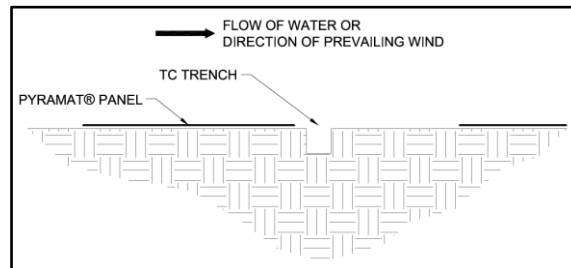
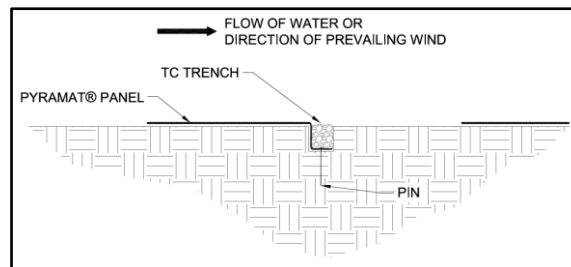

Figure 17: Terminal Channel (TC) Trench Alignment
Figure 18: Terminal Channel (TC) Trench Placement
14. Lay the last PYRAMAT panel on the upstream side of the TC trench (Figure 17). Place the panel edge in the TC trench, ensuring full coverage along the bottom of the entire TC trench with the PYRAMAT (Figure 18).
15. Secure PYRAMAT with pins in the TC trench. Suggested placement of pins for the TC trench is along the bottom of the trench with pins on 12 in (300 mm) centers (Figure 18).
16. Backfill and compact the TC trench (Figure 18).